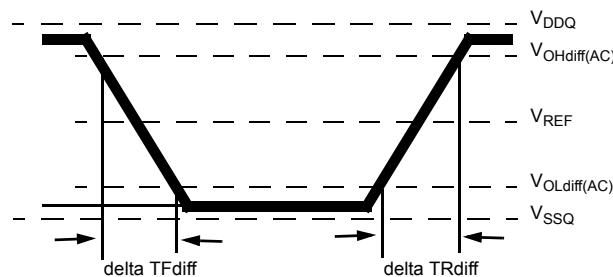

Figure 8. Differential Output Slew Rate definition
With the reference load for timing measurements, output slew rate for falling and rising edges is defined and measured between VOLdiff(AC) and VOHdiff(AC) for differential signals as shown in Table 18 and figure 8.
| Maximum peak amplitude allowed for overshoot area (See Figure 8)  | 0.4V          | 0.4V      | 0.4V      | 0.4V      |
| Maximum peak amplitude allowed for undershoot area (See Figure 8) | 0.4V          | 0.4V      | 0.4V      | 0.4V      |
| Maximum overshoot area above VDD (See Figure 8)                   | 0.67V-ns      | 0.5V-ns   | 0.4V-ns   | 0.33V-ns  |
| Maximum undershoot area below VSS (See Figure 8)                  | 0.67V-ns      | 0.5V-ns   | 0.4V-ns   | 0.33V-ns  |